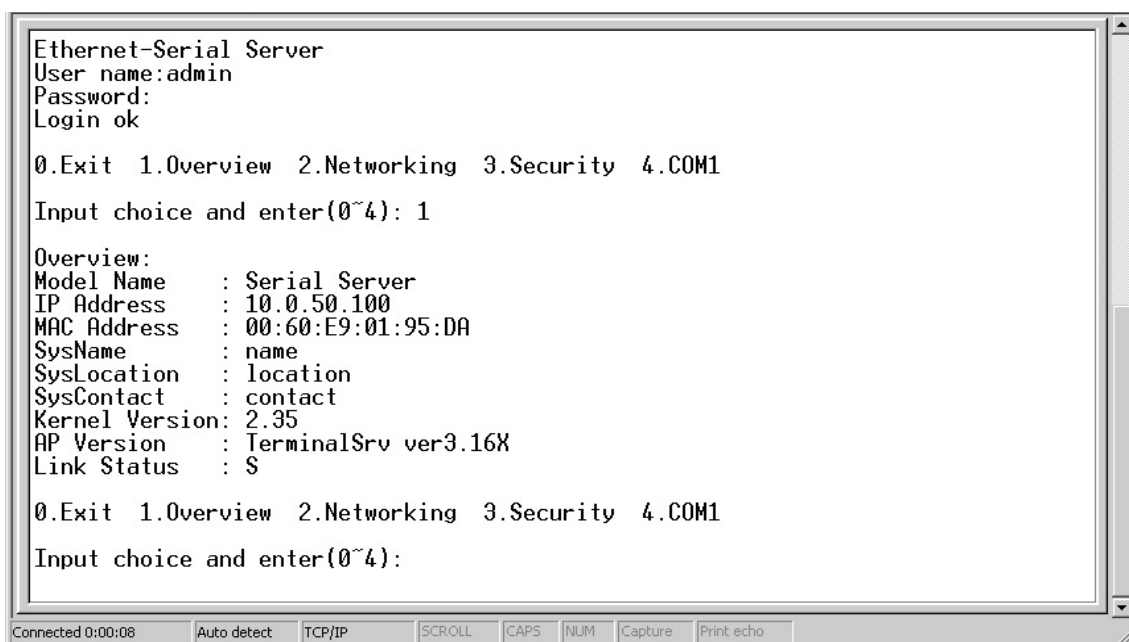

Figure 3.6 Overview
->Select "**1**" from "**Input choice and enter (0~4):**" to enter overview page as following:(Figure 3.6)